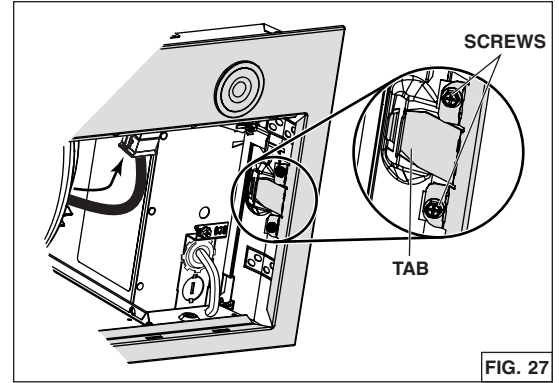

FIG. 27
- Reinstall the faceplate on the unit by clipping its retaining tabs (one per side) to the unit shell. Secure the faceplate to the unit using its 4 retaining screws (two per side). Plug the blower cable to its connector on faceplate (FIG. 27).